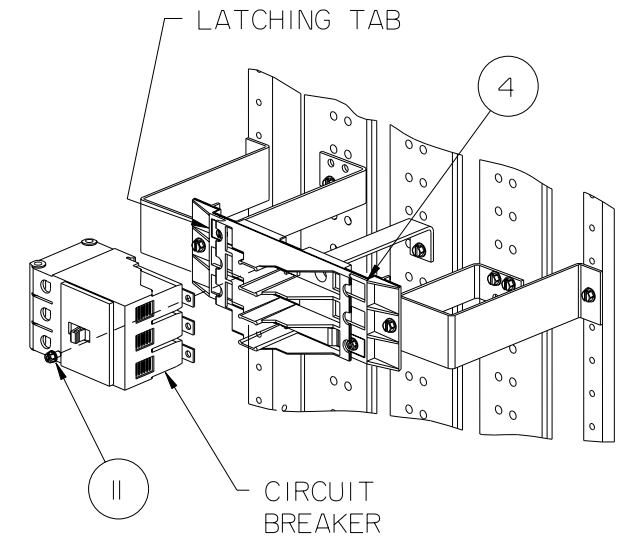

Figure 7
8. Reference figs. 7 and 8 - Installing an NGB Circuit Breaker. Position an NGB type breaker so that the notch in the underside of the breaker case aligns with the uppermost latching tab on either side of the Top Barrier (item 4). Slide the breaker across the barrier surface until the breaker notch engages the tab in the barrier. Insert a 10-32 washer head screw (item 11) through each breaker line connector tab hole and fasten into the Branch Connector (item 6). Torque all hardware as specified on the rear of the deadfront.